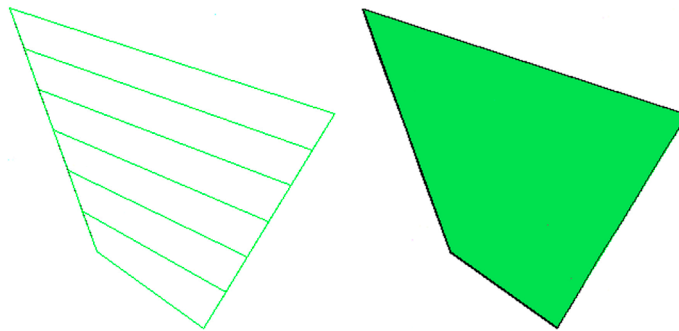

FIGURE 26.6 Final result for rulesurf.
Step 3. Select the second line at roughly the same upper location (if you select a bottom location the surface self-intersects). The shaded results are shown in Fig. 26.6.